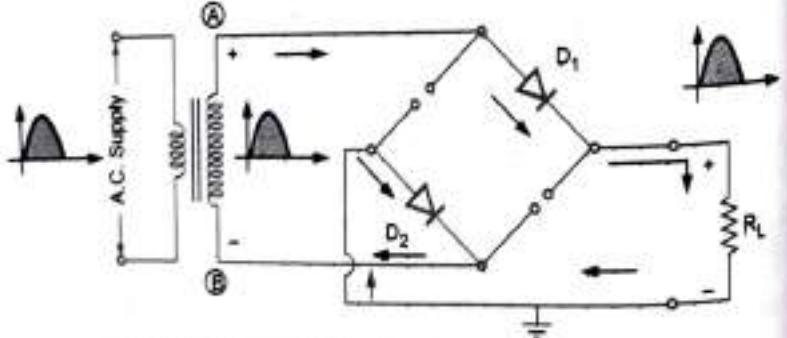

Fig. Q.32.2 Current flow during positive half cycle
- Consider the positive half of ac input voltage. The point A of secondary becomes positive. The diodes D1 and D2 will be forward biased, while D3 and D4 reverse biased. The two diodes D1 and D2 conduct in series with the load and the current flows as shown in Fig. Q.32.2.